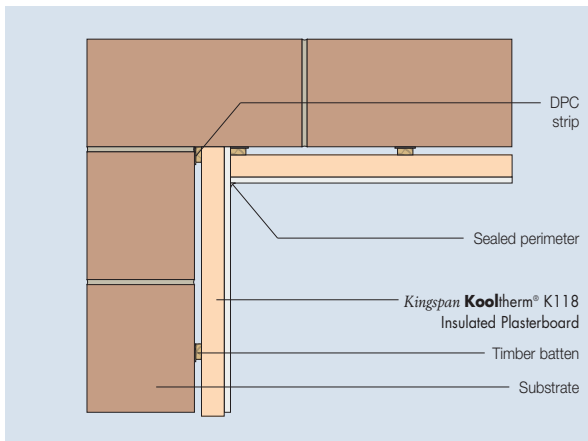

Figure 9 – Internal corner detail
- For external corners (including reveals), the lining should run past the corner and the insulating backing of *Kingspan Kooltherm® K118 Insulated Plasterboard* should be cut back to create a junction (see Figures 9 & 11). Sheets should be cut and rebated to allow a plasterboard / plasterboard joint at the angle (see Figures 9 & 10).
- Ensure sheets are lightly butted and air gaps minimised to reduce the risk of cold bridging (see Figures 9 & 11). Any air gaps should be sealed with flexible sealant or equivalent, or a combination of flexible polyurethane foam and flexible sealant or equivalent.